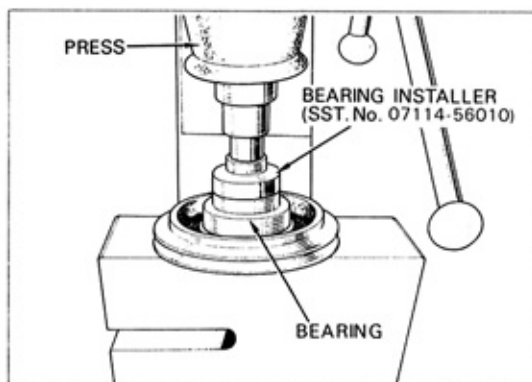

Fig. 70
- b) Set the clutch pulley on the press as shown in Fig. 70, and insert two new bearings into the clutch pulley bore by means of rotor supporter (SST No.07114-66020) and bearing installer (SST No. 07114-66010) till fully seated.